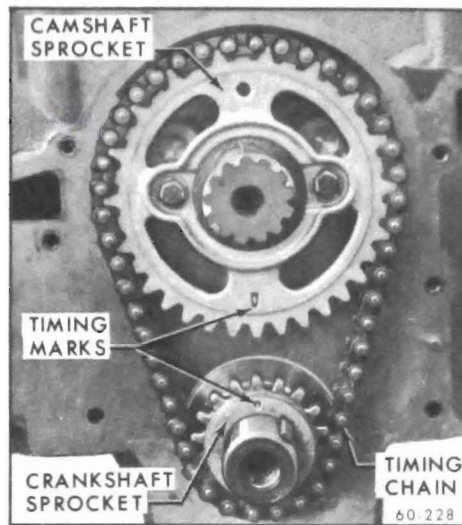

Figure 60-245 Installation of Timing Chain and Sprocket (400 and 430 cu.in.)
400 and 430 Cu. In. 1. With timing chain cover removed (subpar. a above) Temporarily install crankshaft pulley bolt and washer in end of crankshaft. Turn crankshaft so sprockets are positioned as shown in Figure 60-245. Remove crankshaft pulley bolt and washer using a sharp blow on the wrench handle, so that the bolt can be started out without changing position of sprockets.
2. Turn camshaft so with sprocket temporarily installed, timing mark is straight down. See Figure 60-245. Remove sprocket.
3. Assemble timing chain on sprockets and slide the sprocket and chain assembly on the shafts with the timing marks in their closest together position and in line with the sprocket hubs. See Figure 60-245.